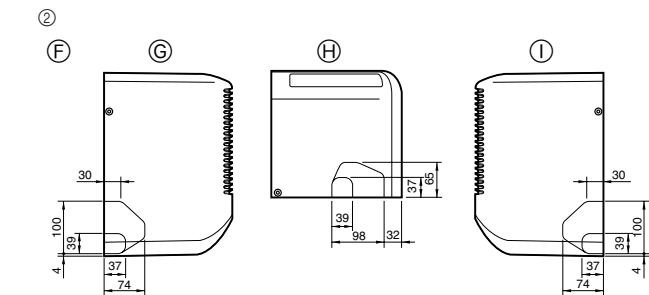

Fig. 4-3
- ② Determine the position of the knockout holes on the unit body (Fig. 4-3)